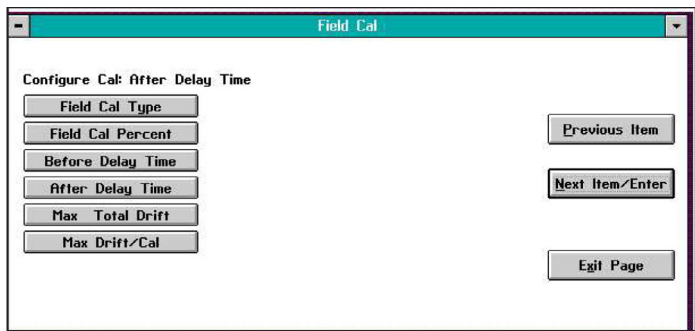

Figure 17: Configure cal window
4. In the Configure Cal window (shown in *Figure 17 on page 21*), click on the Field Cal Type button.
The Configure Cal option enables you to change the field calibration type and various calibration parameters. Clicking on the Configure Cal button opens a window like that shown in Figure 17 below.